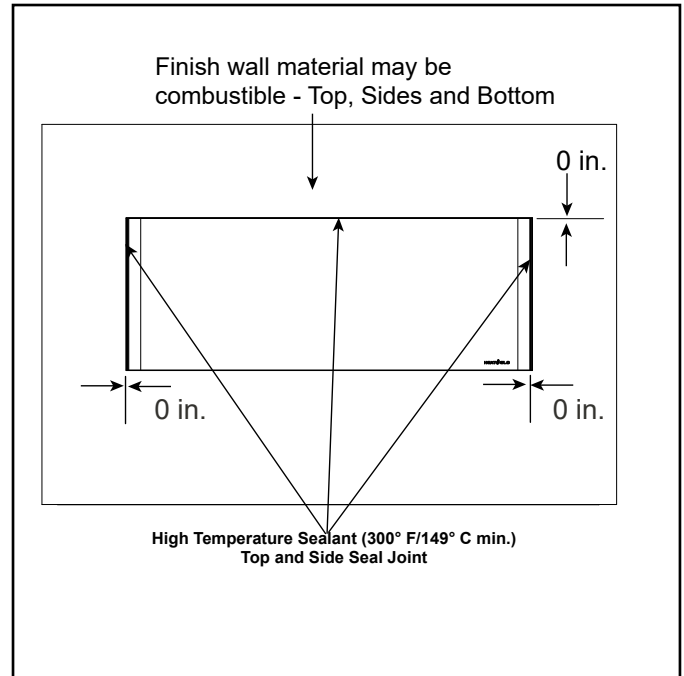
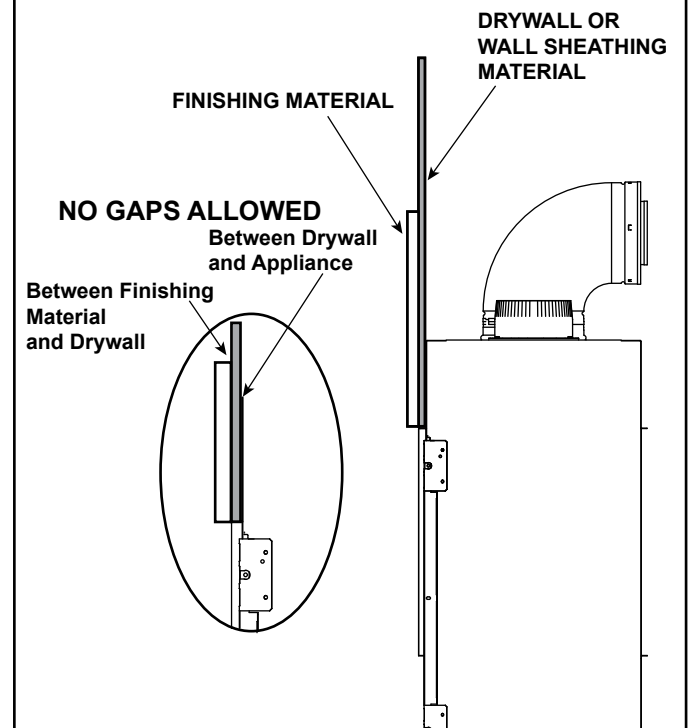

Figure 10.1 Non-Combustible Facing Diagram
Figure 10.2 Finishing Material Installed
- Seal gaps between the finished wall and appliance top and sides using a 300 °F minimum sealant. Refer to Figure 10.1 and Figure 10.2.
- Finishing materials must be installed with no gaps in order to prevent the escape of heat between the finishing materials and the wall. See Figure 10.2.
- Additional non-combustible finishing materials such as granite, stone or tile may be installed. See Figure 10.1.
1. **Step 1:** Fill all gaps and joints between the drywall pieces with a general purpose chemically setting joint compound such as Durabond® 45 Joint Compound manufactured by USG (Sheetrock® brand), recommended by Hearth & Home Technologies. Use a drywall knife to firmly press the joint compound into all gaps. See Figure 10.1. Allow these joints to dry.